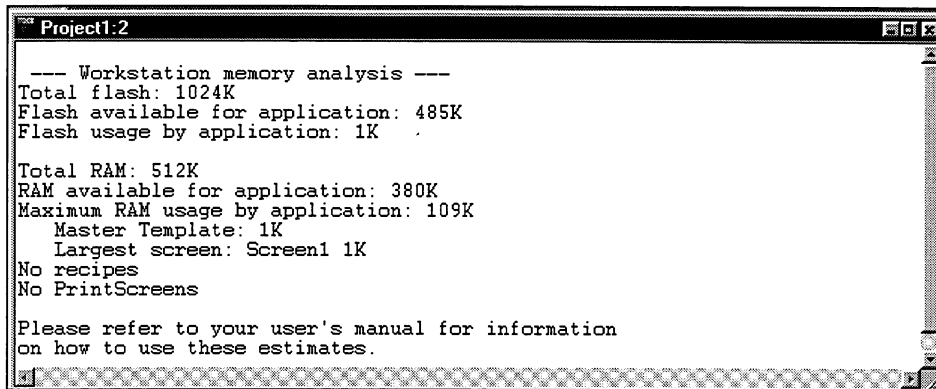

Figure 12-2. Memory Analysis Window
10. Click OK again. The Memory Analysis window displays, as shown in Figure 12-2.